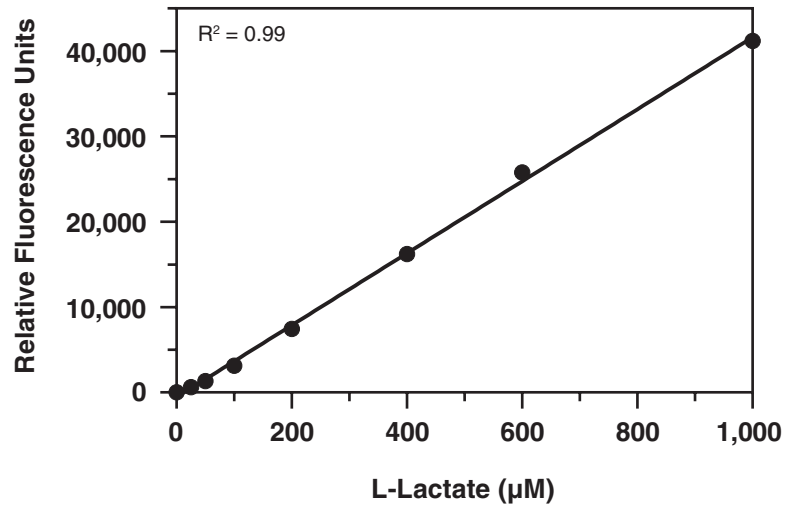

Figure 2. L-Lactate standard curve measured fluorometrically
2. Subtract the fluorescence or absorbance value of the standard A (0 μM) from itself and all other standards and samples. This is the corrected signal (CS).
3. Plot the CS values (from step 2 above) of each standard as a function of the final concentration of L-lactate from Table 1. See Figures 2 and 3, on pages 22 and 23, for typical standard curves.